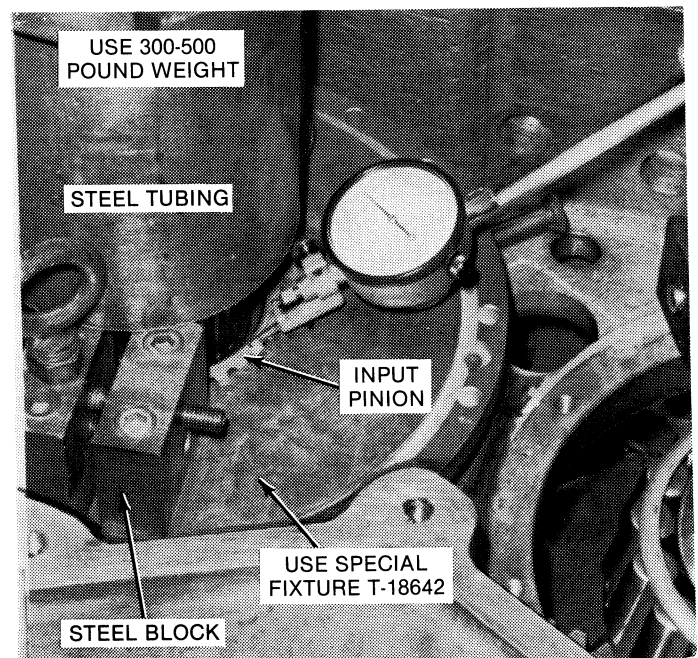

Figure 9-3. Forward Force Applied to Input Pinion.
b. Secure the bearing carrier assembly with eight hex-head screws (15). Torque the screws 30 lb. ft.
c. To check the endplay, install special fixture T-18642 (See Section 11) over the splines of the input pinion. See Figure 9-3.
d. Place a steel block (approximately 2 x 2 x 2 inches) onto each side of the fixture. Place a piece of 4-inch I.D. steel tubing 9 inches long, over the shaft (forward or reverse) so that the tubing rests solidly on the steel blocks. See Figure 9-3.
- g. Attach a dial indicator to a machined surface of the housing and rest the indicator finger on the rear end of the input pinion. See Figure 9-3.